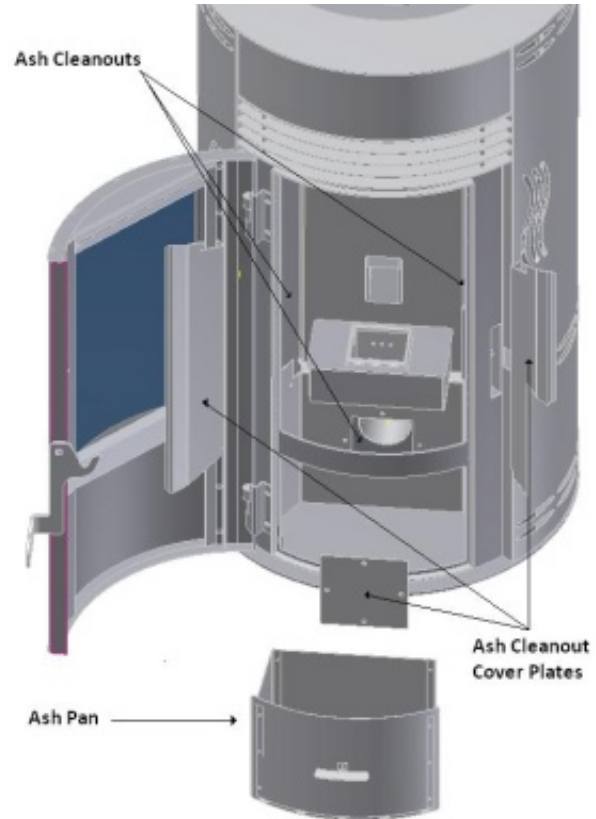

FIGURE 18
- Interior Chambers** – The two ash doors in the firebox in the Breckwell Solstice can be removed for periodic cleaning (refer to figure 18). These doors allow access to the chamber behind the firebox.